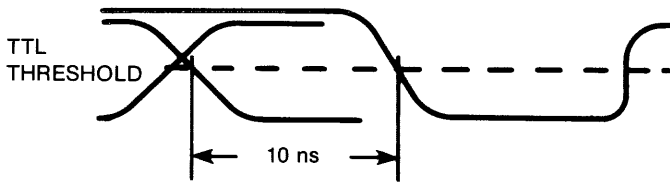

Figure 5.7
- a. Adjust D1 (R13) for 10 ns between the last address edge and falling edge of the  $\overline{WE}$  (see Figure 5.7).